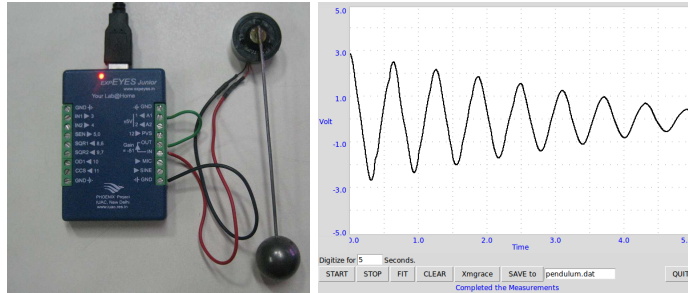

Figure 6.2: Pendulum oscillations digitized
**Observation** The observed waveform is shown in figure 6.2(b). Fitting it with equation  $A = A_0 \sin(\omega t + \theta) * \exp(-dt) + C$ , using Grace gave an angular frequency of 10 Hz.